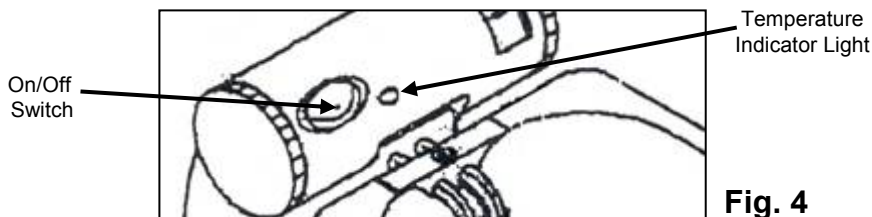

Fig. 4
- The temperature indicator light (# 7) will come on when the temperature is set and the deep fryer is “on” showing that the heating element is in operation. This light goes off when the set temperature is reached. Fig. 4 The temperature light may go on and off several times during frying. This indicates that the temperature is thermostatically maintained.